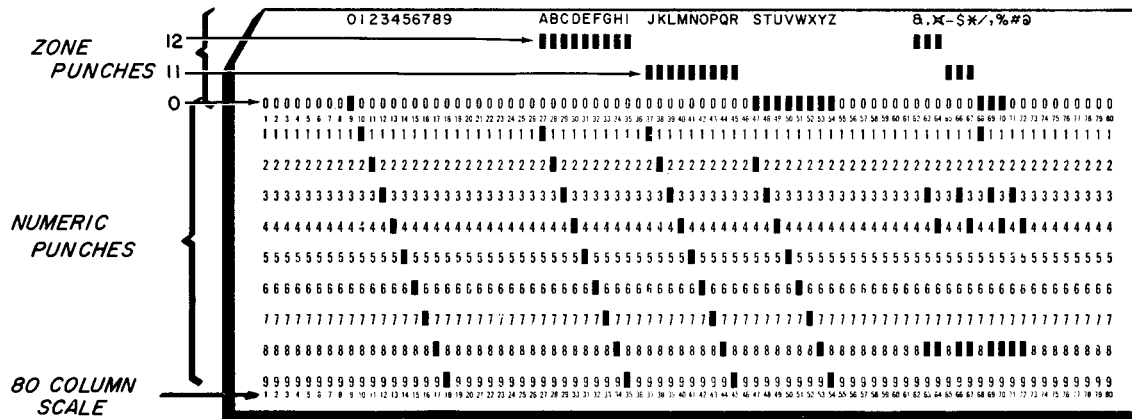

Figure 12. Hollerith Punched Card Code
61. Punched card code is shown in Figure 12. (NOTE: This code should properly be referred to by the name of its originator, Dr. Herman Hollerith. You may have been accustomed to improperly calling it by a company name in your previous programming.)